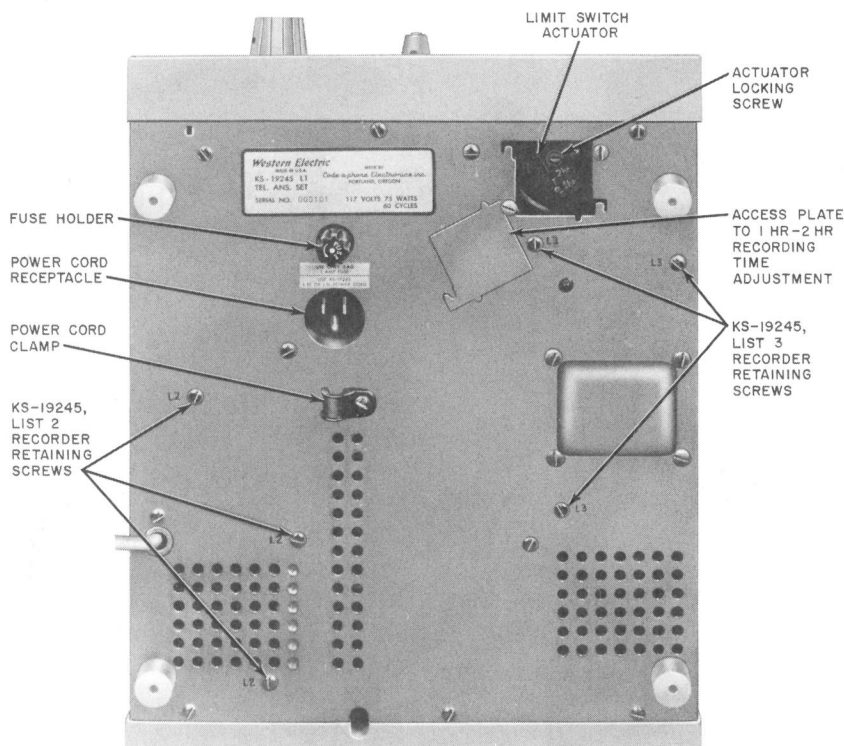

Fig. 2—KS-19245, List 1 Telephone Answering Set, Bottom View
- (4) Remove three retaining screws (Fig. 2) located on the bottom of the set.
- (a) Remove three retaining screws located on bottom of set (Fig. 2).